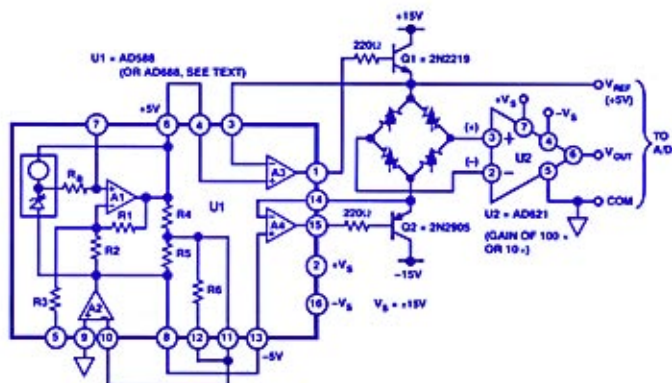

Figure 15. Bipolar ( $\pm 5$ -V) bridge with precision in-amp.
**Bipolar-reference bridge driver:** For optimum operation of a dc bridge, bipolar drive is useful; it virtually eliminates the output common mode component. Figure 15 shows an implementation using either an AD588 or AD688 buried-Zener reference with Kelvin sensing of the drive voltages at the bridge.